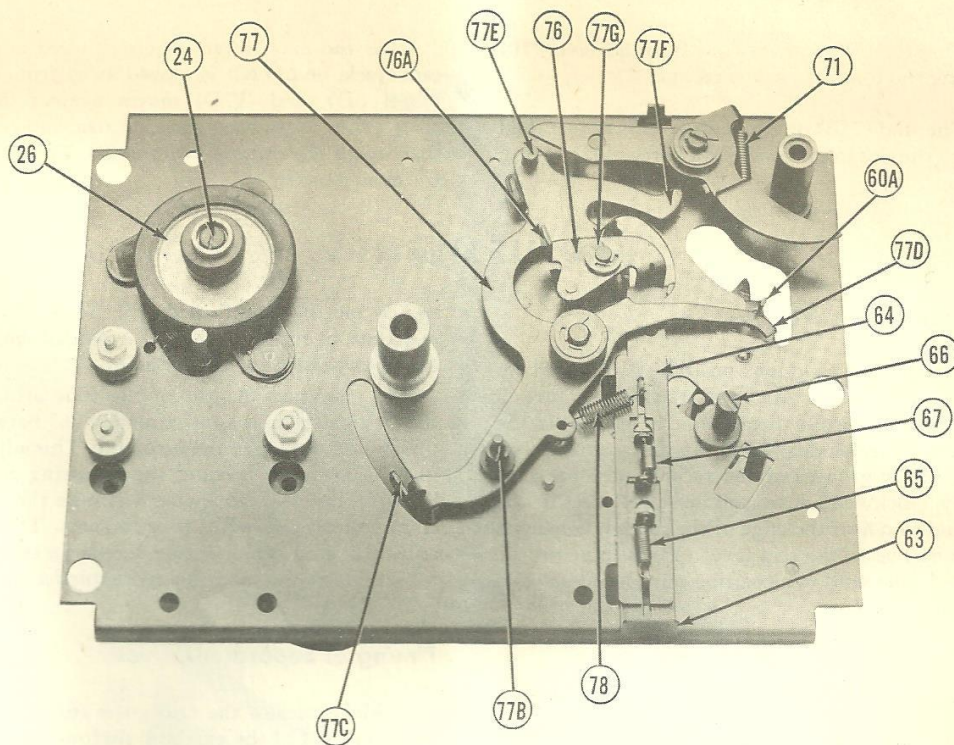
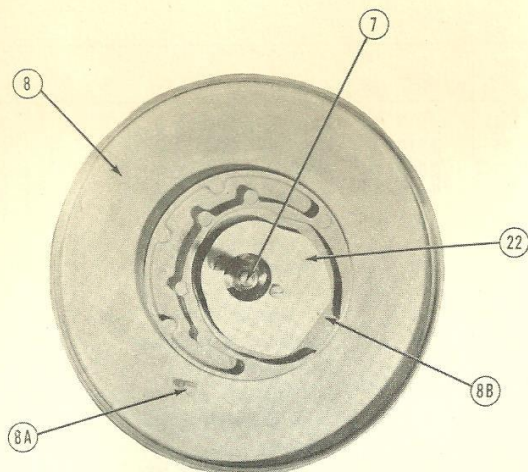

FIGURE 3
FIGURE 5
As the turntable rotates, a small projection (8A) extending from the underside of the turntable contacts the end of the trip pawl (76). Upon contact, the stud on the trip pawl (76) is forced against the main lever assembly (77) causing the follower stud (77B), Figure 3, of the main lever (77) to be forced through the slot and into the cycling cam groove (8B), Figure 5, thus starting the change cycle.
1. Stud (8A) of the turntable, Figure 5, broken off.